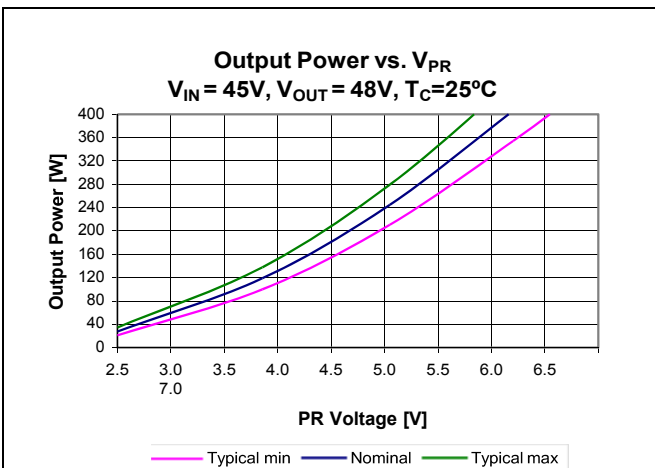

Figure 21 – Output Power vs.  $V_{PR}$ ;  $V_{IN} = 45\text{ V}$ ,  $V_{OUT} = 48\text{ V}$ ,  $T_{CASE} = 25^\circ\text{C}$
**Control node (PR)** is the input to the control node which determines the powertrain timing and ultimately the module output power (Figure 21). An internal 0.5 mA current sink is always active. The bi-directional buffer between PR and the control node has two states. In normal operation, PR will be above the 0.79 V switching threshold, and will drive the control node through the buffer. An internal 7.4 V clamp determines the maximum output power that can be requested of the modulator.